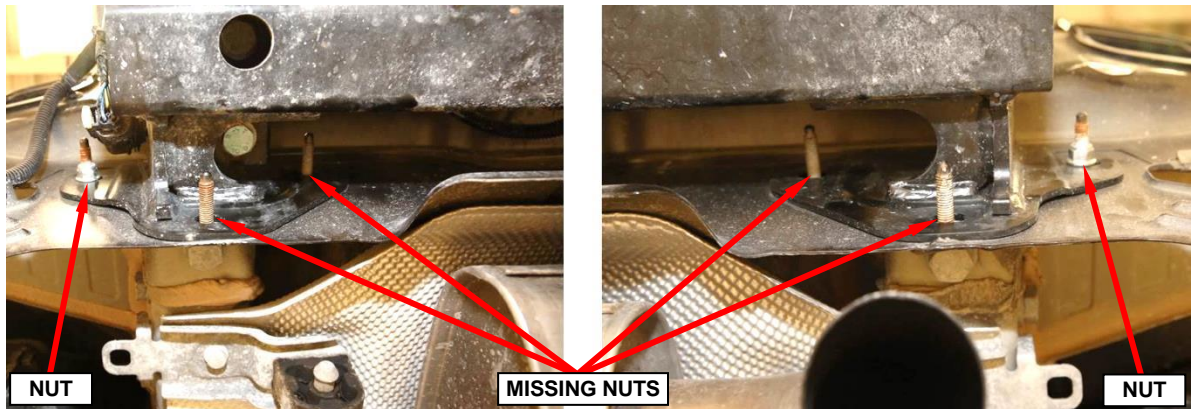

Figure 10 – Trailer Hitch-to-Body Attachment Studs Missing Nuts
14. Clean the trailer hitch-to-body attachment stud threads of any debris before installing any nuts that may be missing (Figures 10 and 11).